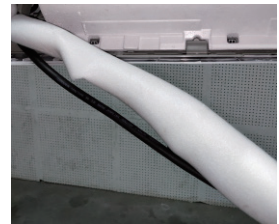

Fig.3
- After finishing the connection, use the tape to wrap the refrigerant pipe and connecting cable together. See Fig.3.